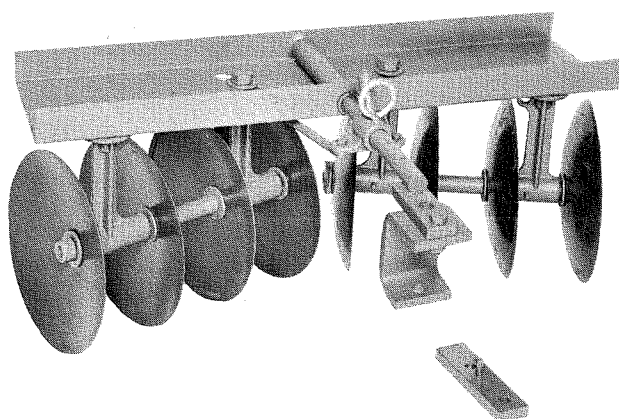

FIGURE 2
7. Connect the pivot rods to the inner gangs and adjust them with the lock nuts so the right and left gangs are set at the same angle. See Figure 2.